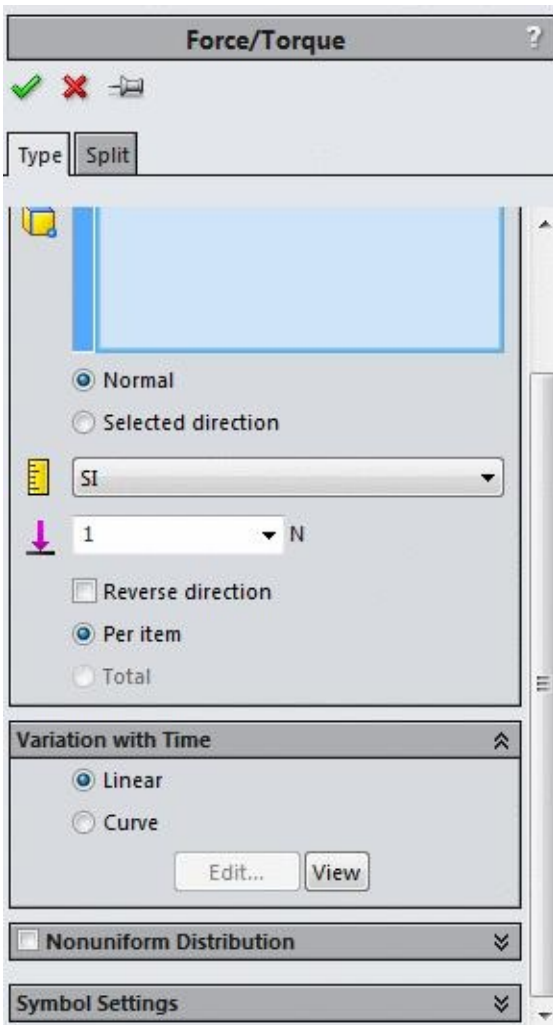

Figure-5. Force Torque PropertyManager
- Click on the **Force** button from the list. The **Force/Torque PropertyManager** will be displayed; refer to Figure-5.